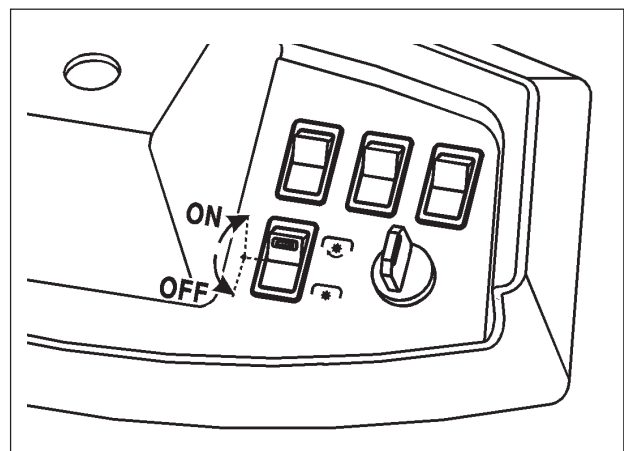

Fig. 16
Be sure the cutting system clutch is disengaged and is in the OFF position before starting engine (fig. 16).
2. When on the lawn, engage mower clutch with toggle switch (fig. 16).